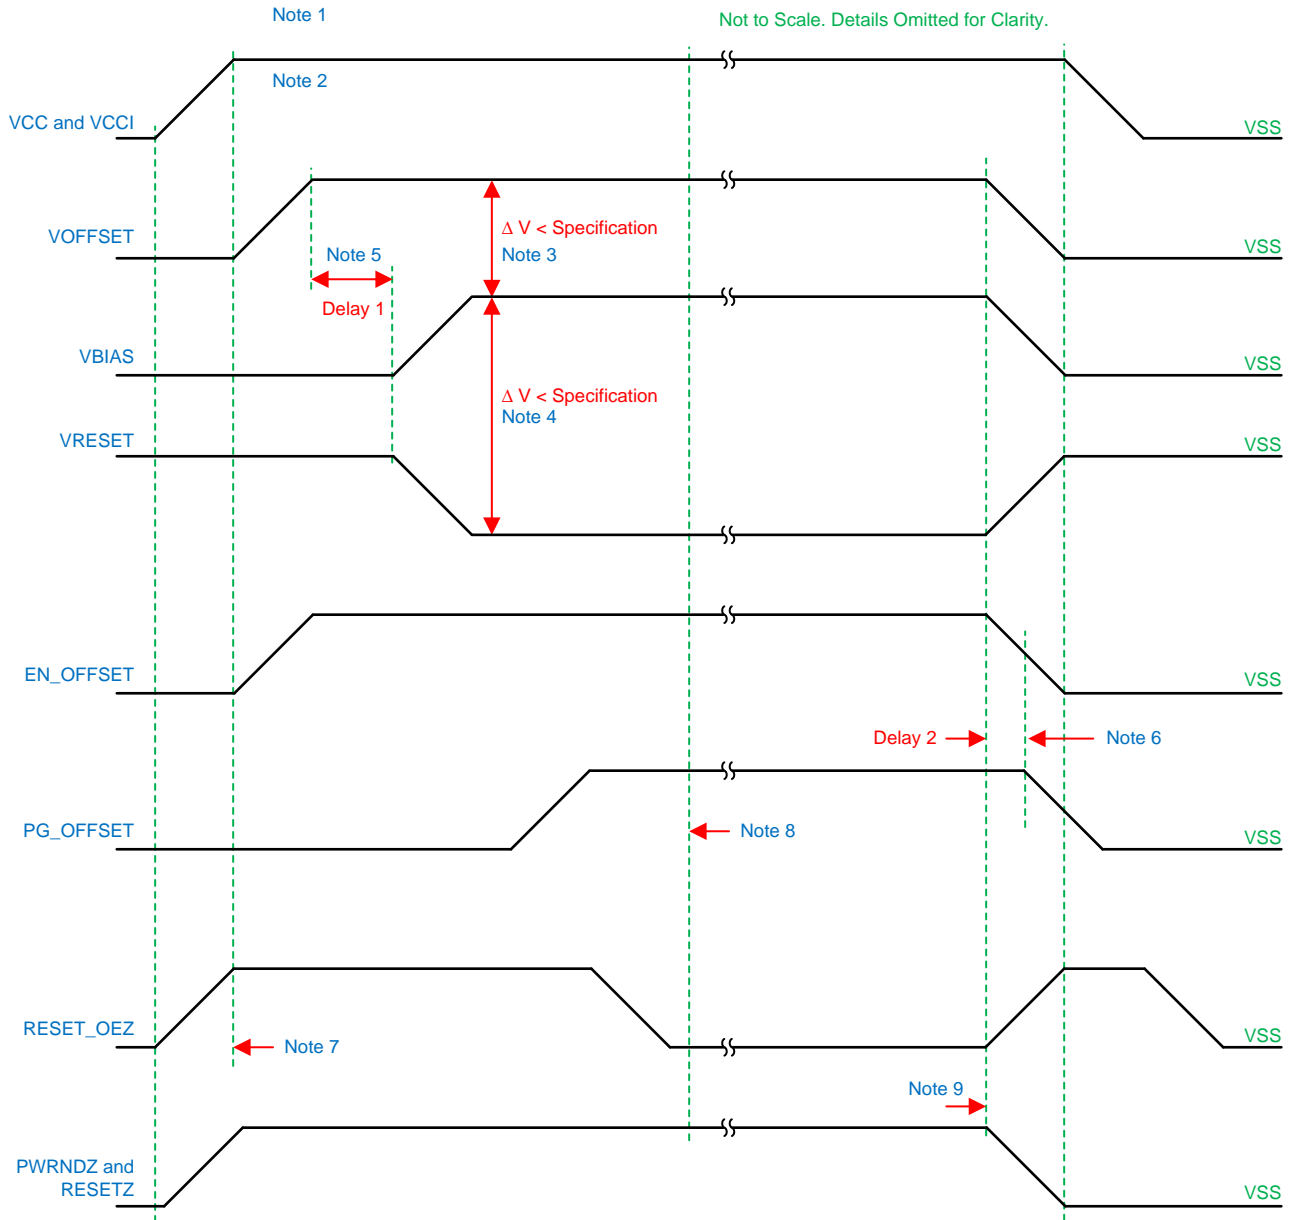

図 14. DMD Power Supply Timing Diagram
See the start-up and shutdown power sequence timing requirements in the DLP470NE data sheet, which must be consulted to ensure full compliance. Figure 14 and Table 3 show a snapshot of these requirements.
5. The VBIAS should power up after VOFFSET has powered up, per the Delay 1 specification in 図 14.
6. The PG_OFFSET should turn off after EN_OFFSET has turned off, per the Delay 2 specification in 図 14.
- During power up, VCC and VCCI must always start and settle before VBIAS, VRESET, and VOFFSET plus Delay 1 as 図 14 shows.